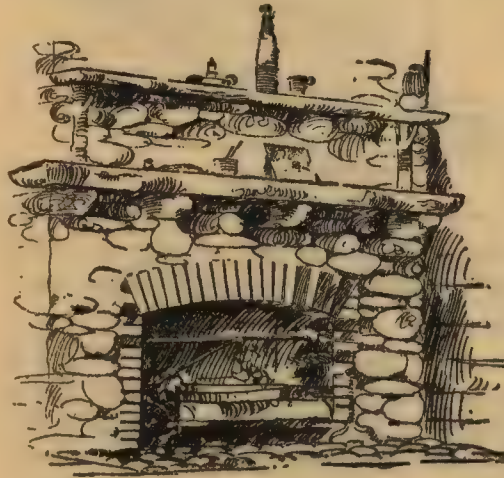

FIG. 20.
**FIRE-PLACES.**—The fire-place (Fig. 20) should be made of fire-brick and the rest of the chimney of ordinary brick; or if a stone chimney is preferred, place a lining of fire-brick for the fire-place.
is building the fire-place. The arm should extend within about six inches of the side of the fire opening, and have dangling hooks on which to hang the kettles (see Fig. 20).